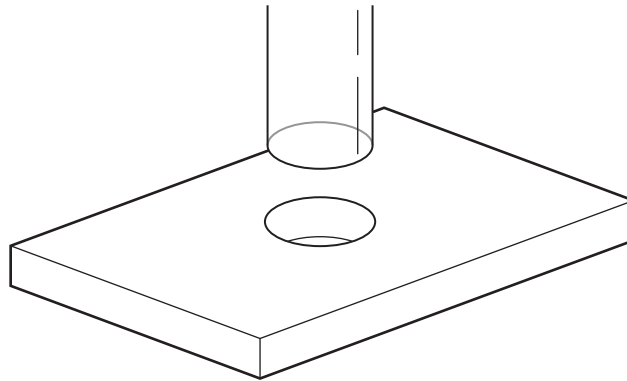

Fig. 1
- 3 State how the clear acrylic rod shown in Fig. 1 could be joined permanently to the acrylic base.